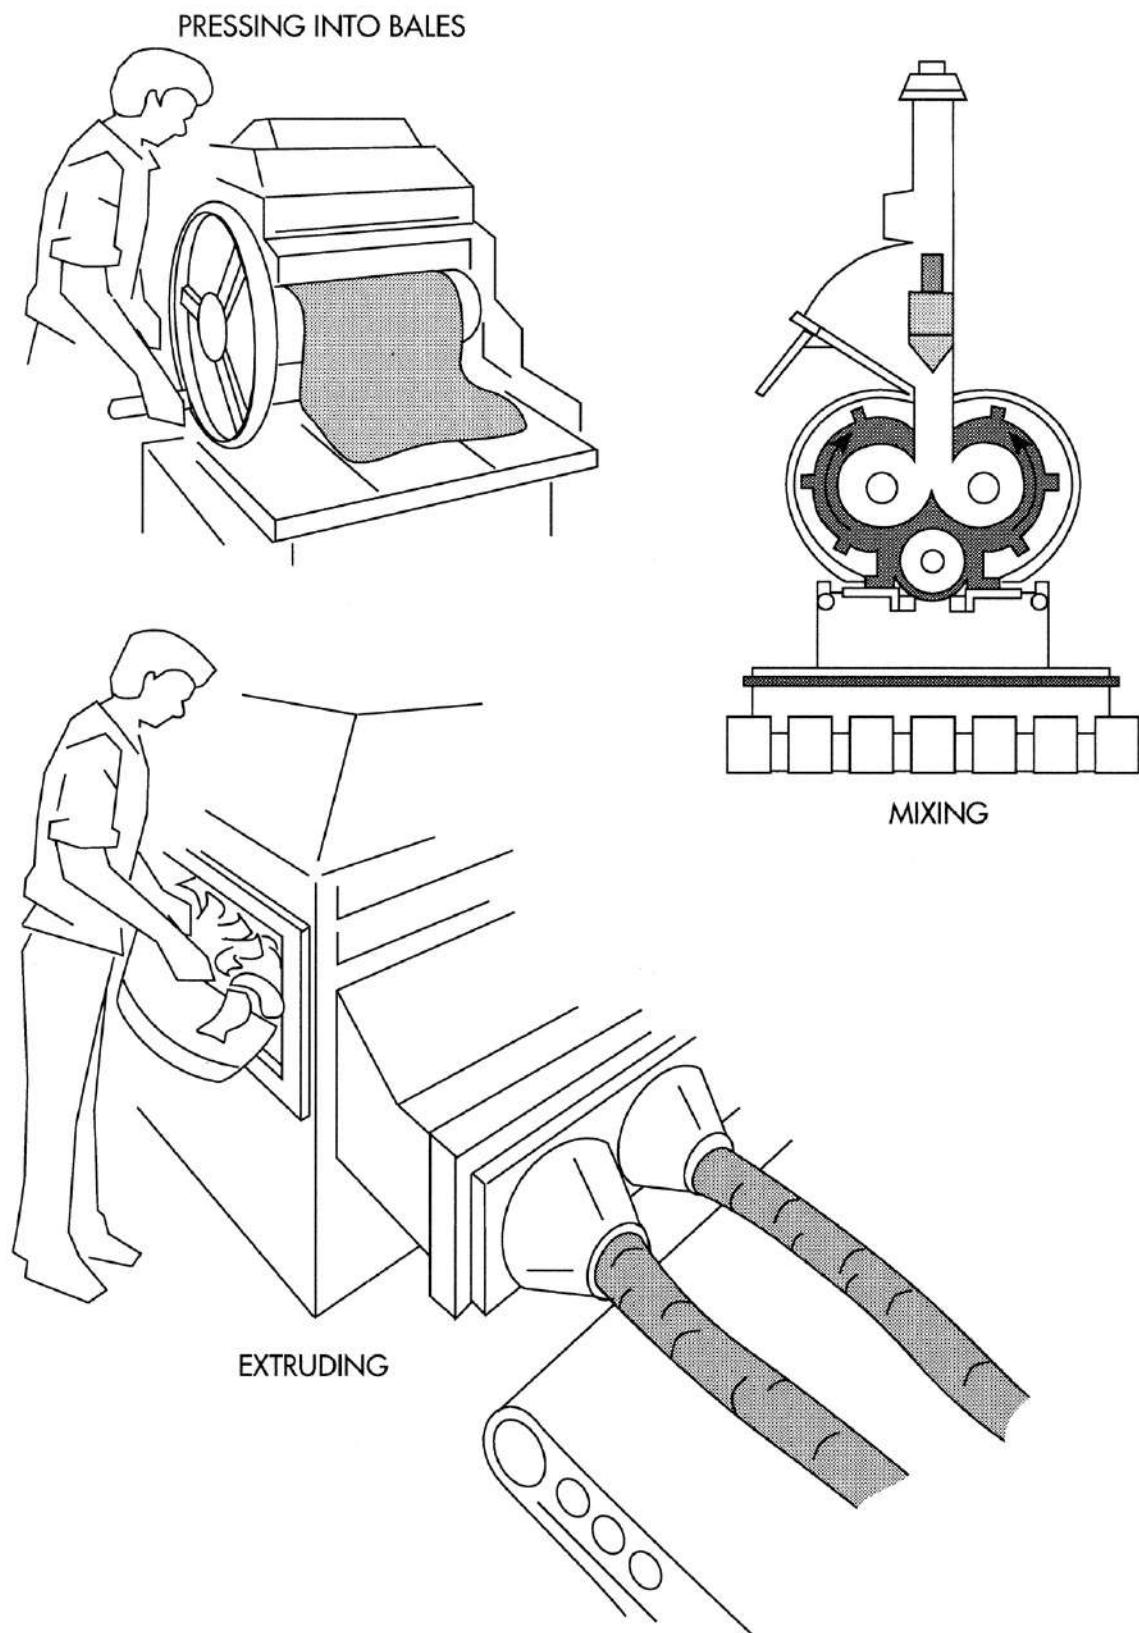

Figure 1. The rubber slabs are squeezed between rollers to remove excess water and then
3. Next, the slabs are squeezed between rollers to remove excess water (see figure 1) and pressed into bales or blocks, usually 2 or 3 feet (61–91 cm) square, ready for shipping to factories.
many manufacturers use a Banbury mixer to mix the rubber with other ingredients—sulfur to vulcanize it, pigments to color it, and other chemicals to increase or diminish the elasticity of the resulting rubber bands (see figure 1). Although some companies don't add these ingredients until the next stage (milling), the Banbury machine mixes them better, producing a more uniform product.
6. After rubber leaves the milling machine, it is cut into strips. Still hot from the milling, the strips are then fed into an extruding machine (see figure 1), which forces the rubber out in long, hollow tubes (much as a meat grinder produces long strings of meat).